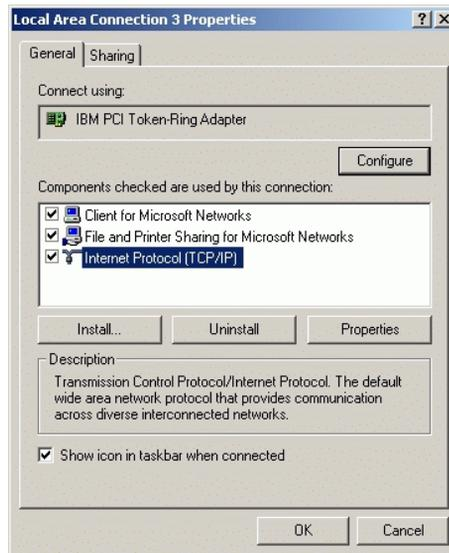

Figure 17 Local Area Connection 3 Properties Dialog Box
4. Click *Properties*. The *Local Area Connection 3 Properties* dialog box displays (Figure 17).